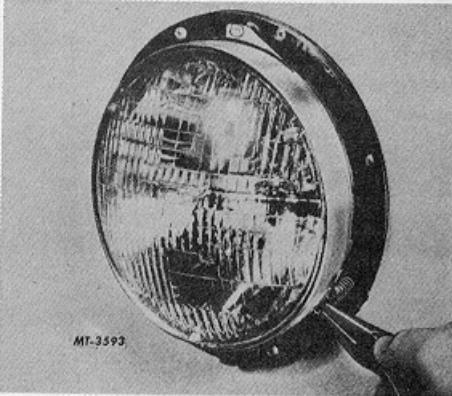

Fig. 1
2. Unhook the headlight retaining spring from the headlight retainer, Fig. 1.